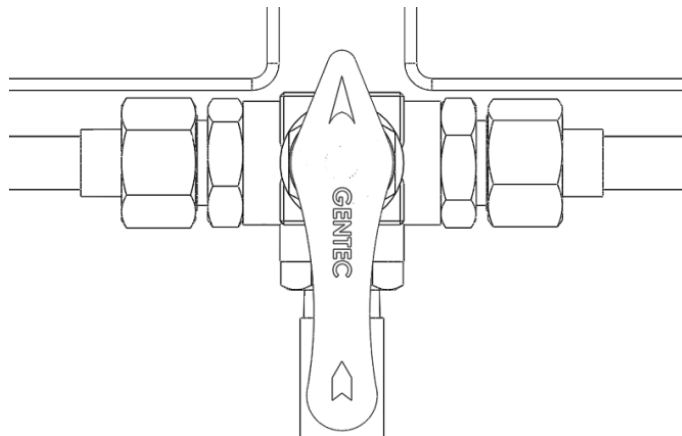

Figure 8
5. Move the 3-way ball valve to the closed position as shown in Figure 8.